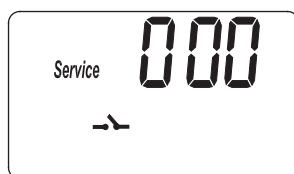
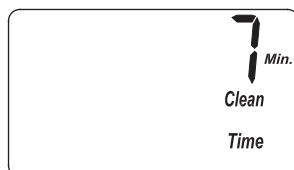
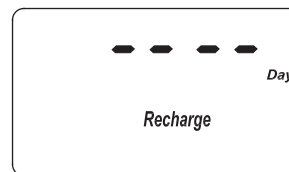

FIG. 37
FIG. 39
FIG. 40
1. Press and hold the PROGRAM button until the screen in Figure 37 is displayed. Once in this display, press the PROGRAM button twice and one of the two displays in Figure 38 is shown.
1. Press and hold the PROGRAM button until the screen in Figure 37 is displayed. Once in this display, press the PROGRAM button three times and the display in Figure 39 is shown.
1. Press and hold the PROGRAM button until the screen in Figure 37 is displayed. Once in this display, press the PROGRAM button four times and the display in Figure 40 is shown.
1. Press and hold the PROGRAM button until the screen in Figure 37 is displayed. Once in this display, press the PROGRAM button five times and one of the two displays in Figure 41 is shown.